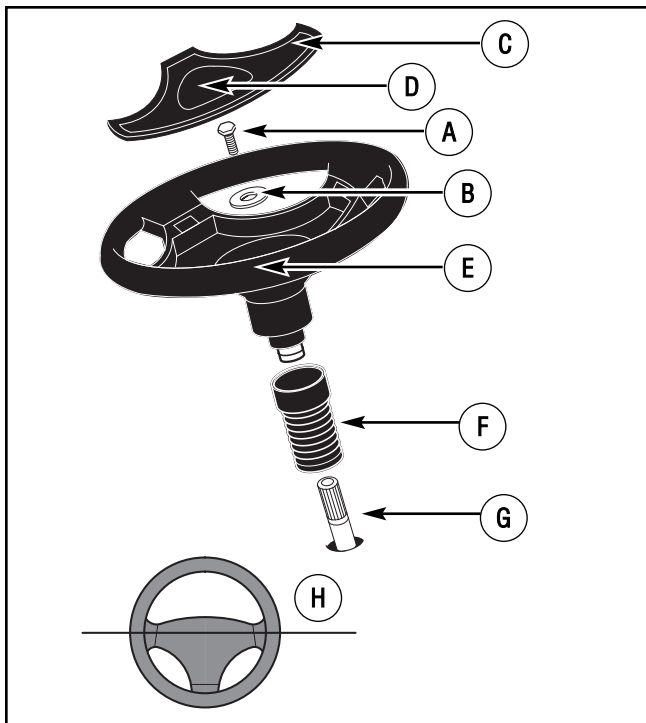

Figure 7: Steering post
2. Slide the **bellows** over the **steering post** (Figure 7).
- NOTE:** Before attachment of the steering wheel, make sure that the front wheels point forward and are straight. For proper alignment of the steering wheel, see Figure 7.